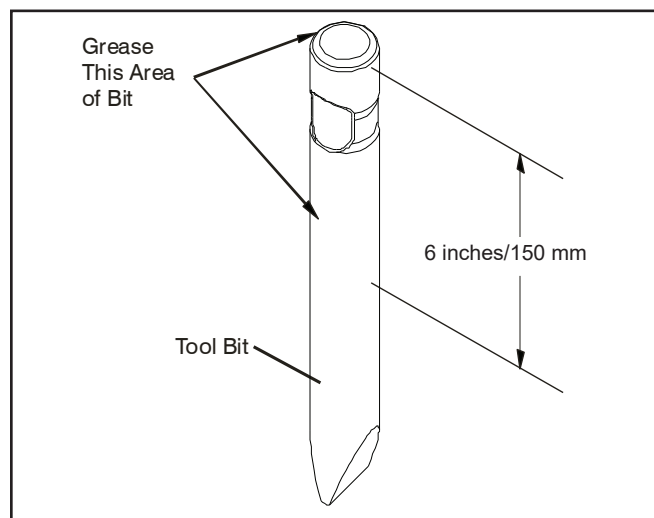

Figure 1. Greasing the Top of the Tool Bit
1. The tool retainer (9) is shipped installed in the breaker (see parts illustration).
3. Grease the top area of the tool bit as shown in Figure 1.